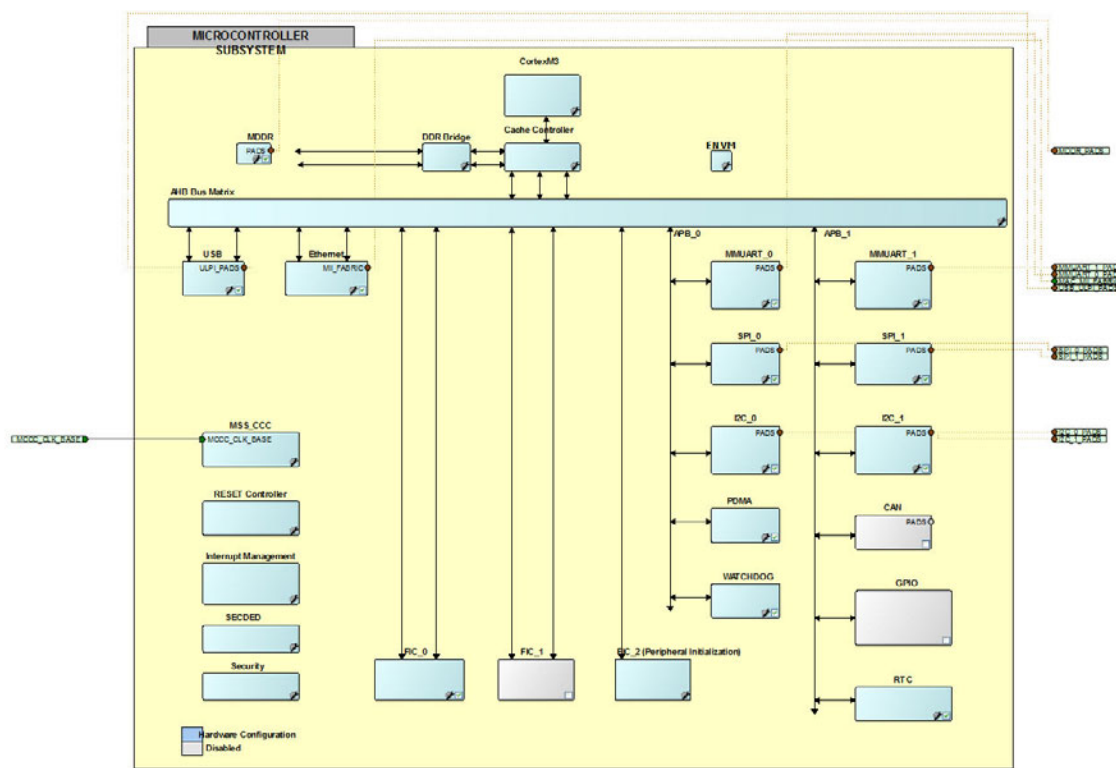

Figure 2-2 • SmartFusion2 MSS Configurator
1. Double-click **Interrupt_MSS_GPIO_MSS_0** to open the SmartFusion2 MSS configurator (Figure 2-2)